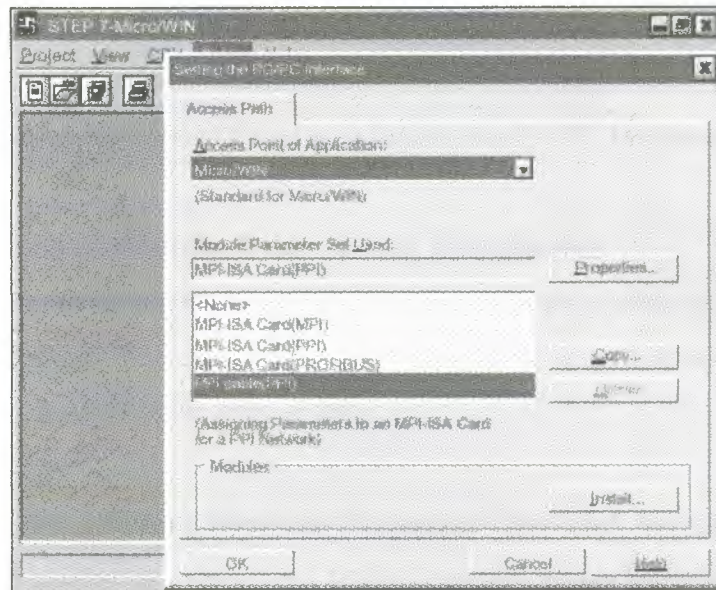

Figure 6.11 Setting the PG/PC Interface Dialog Box
After you have called up the Communications dialog box, click the “PG/PC Interface” button. The Setting the PG/PC Interface dialog box appears. See Figure 6.11.
When you have reached the Setting the PG/PC Interface dialog box (see Figure 6.11), you must select “Micro/WIN” in the Access Point of Application list box in the Access Path tab. This dialog box is common to several different applications, such as STEP 7 and WinCC, so you must tell the program the application for which you are setting parameters.
- 1 In the Setting the PG/PC Interface dialog box (see Figure 6.11), select "Micro/WIN" in the Access Point of Application list box in the Access Path tab.